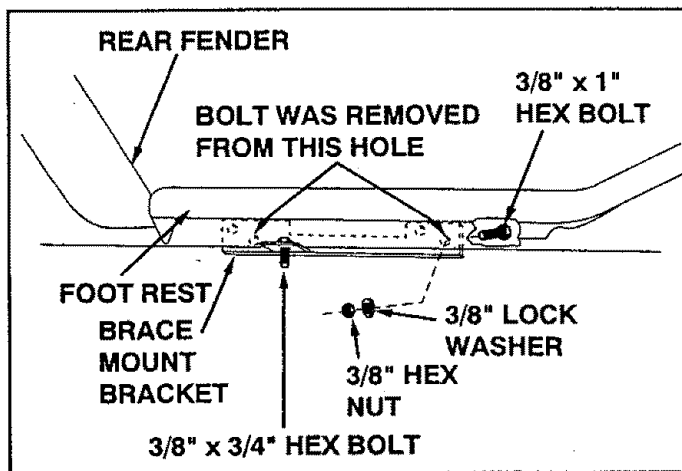

FIGURE 5 (Right hand side view)
- Starting at the rear of the foot rest, remove and discard the bolts that are currently in the bottom set of holes pointed out in figure 5.
- Place a 3/8" x 3/4" hex bolt in ear of each brace mount bracket as shown in figure 5. Now using the bottom two holes attach each brace mount bracket (R.H and L.H.) to the underneath side of the tractor frame using four 3/8" x 1" hex bolts, lock washers and lock nuts. (Brackets should be positioned inside of frame with ears sticking outward.) See figure 5.